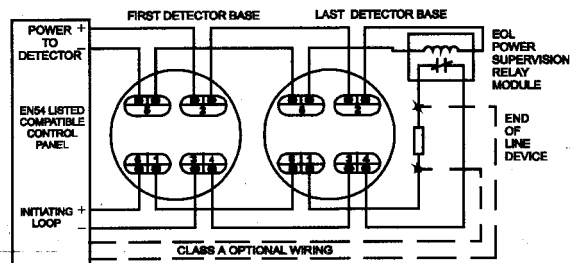

Fig. 1.B Installing the 4-wire multiple station smoke detector base
Figure 1 shows the typical wiring diagram of the 4-wire multiple-station smoke detector system.
- The end-of-line device shown in Fig.1 should be compatible with the control unit. The end-of-line supervisory relay used should be rated for the DC power voltage used.